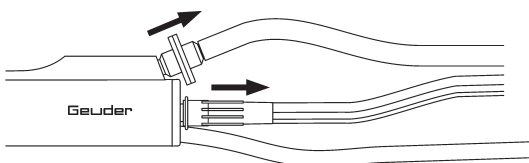

Fig. 3
- Remove the tubing system according to fig. 3.
- Remove the tubing system according to fig. 3: